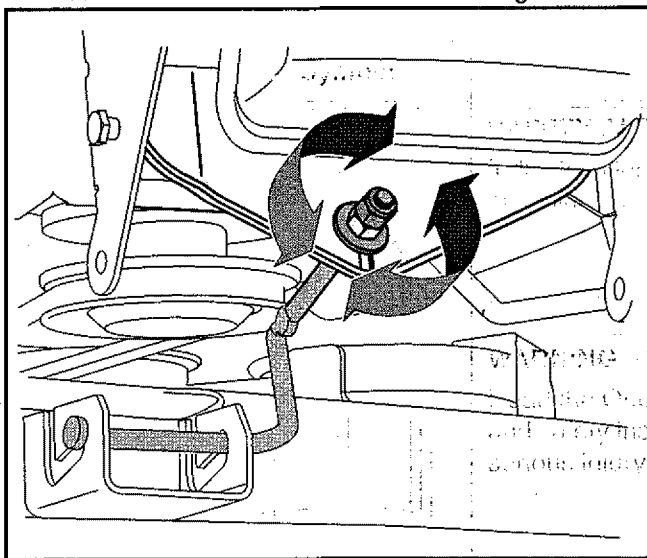

Figure 12
5. From the front of the tractor, loosen the outermost hex lock nut on the end of the deck hanger rod. See Figure 12.
6. Tighten the inner hex nut against the front hanger bracket to raise the front of the deck; loosen the hex nut to lower the front of the deck. See Figure 12.